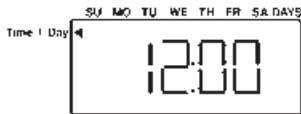

fig.10
2. Using the **↓↑** buttons, set the current time (fig. 10).